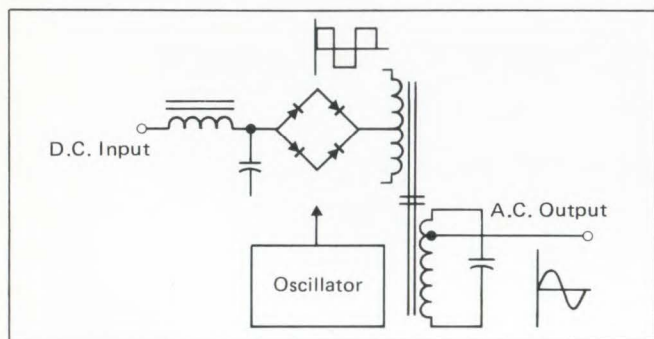

Fig 3 Ferroresonant (CVT) inverter.
**Ferroresonant (Fig 3):** This approach uses a simple unregulated inverter switch to generate either a square wave or two square waves, offset  $30^\circ$  and summed, to eliminate the third harmonic. This square wave or zero-third harmonic waveform goes into a ferroresonant, constant voltage transformer, actually a resonant transformer/capacitor tuned for 60Hz operation. The transformer regulates the output voltage, smooths the waveform and provides inherent current limiting. Ferroresonant inverters have been in use for many years, are simple and, if well-designed, quite reliable. They are less efficient than other approaches because of the energy dissipated in the resonant output section and have comparatively poor transient response due to its high impedance. Ferroresonant UPS also tend to be bigger and heavier than those using other techniques.